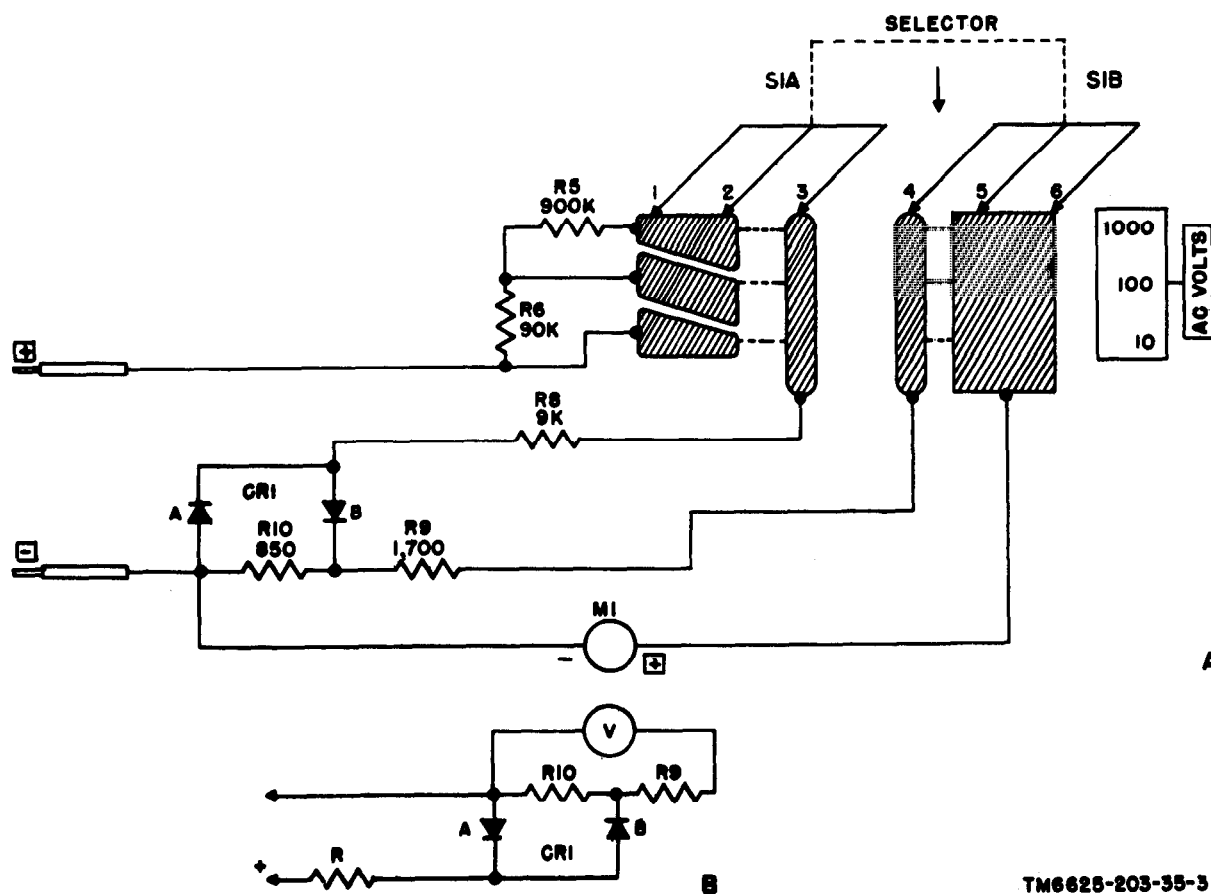

Figure 3. Ac. voltmeter circuit, partial and simplified schematic diagram.
a. The simplified ac voltmeter circuit (B, fig. 3) consists of the meter with series resistor R9 and this series combination is in parallel with resistor R10; this series-parallel circuit in series with the resistance of rectifier CR1B and multiplier resistor R produces a voltmeter sensitivity of approximately 1,000 ohms per volt. Changing the value of the multiplier resistor will change the ac voltage range.
b. Selector switch S1 (A, fig. 3) selects the
c. Current flow through the meter circuit (B, fig.3) is as follows:
- (1) When point X is negative with respect to point Y, rectifier CR1B conducts and rectifier CR1A is not conducting. Current flows from point X to the junction of resistor R10, the meter, and rectifier CR1A. Most of the current will flow through shunt resistor R10; a small portion of the current will flow through the meter and current limiting resistor R9 and combine with the current flowing through resistor R10. The current then flows through rectifier CR1B and multiplier resistor R to point Y.
- (2) When point Y is negative with respect to point X, rectifier CR1A conducts and rectifier CR1B is not conducting. Current flows from point Y, through rectifier CR1A, to point X. When rectifier CR1A conducts, it acts as a short circuit for the remainder of the meter